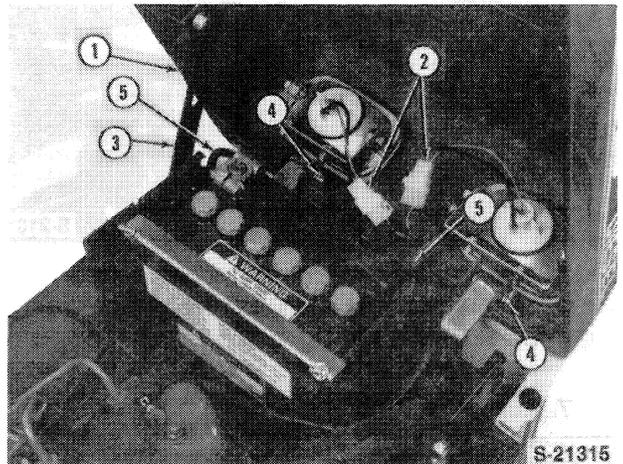

Figure 5
2. Disconnect the two headlight wiring connectors (2), Figure 5.
3. Remove the two hood pivot pins (4) and brace (3) and remove the hood from the tractor.
5. Disconnect the battery cables (5), Figure 5, from the battery terminal posts.